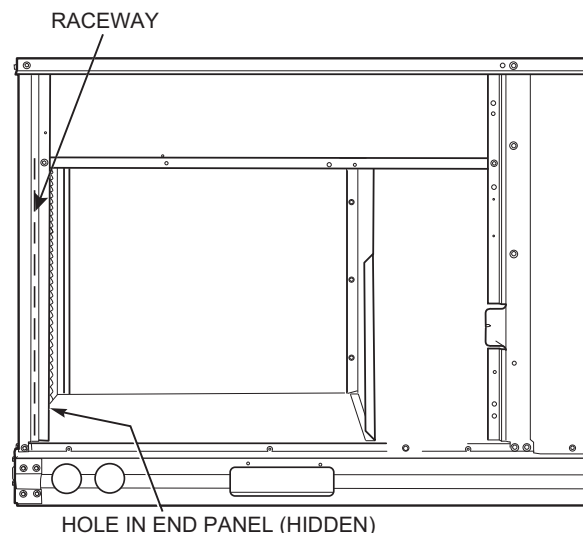

Fig. 43 — Field Control Wiring Raceway
Pass the thermostat control wires through the hole provided in the corner post; then feed the wires through the raceway built into the corner post to the control box. Pull the wires over to the terminal strip on the upper-left corner of the Controls Connection Board. See Fig. 43.
2. Feed wires through the raceway built into the corner post (see Fig. 43) to the 24-v barrier located on the left side of the control box. The raceway provides the UL-required clearance between high-voltage and low-voltage wiring.